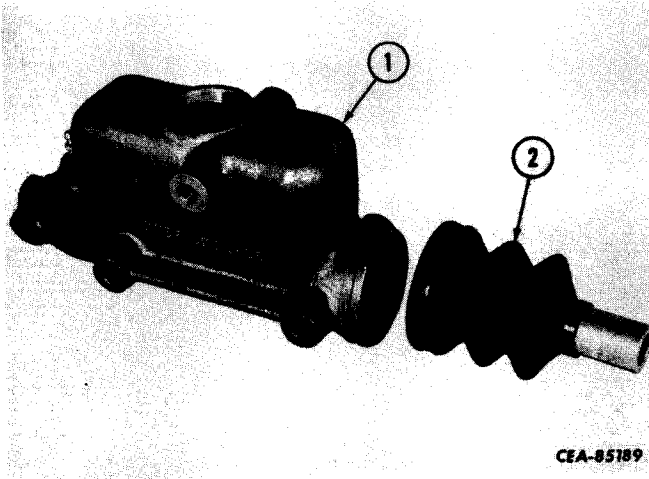

Figure 13-35
Separate piston rod boot (2, Fig. 13-35) from hydraulic cylinder (1).
Attach boot (2, Fig. 13-35) to end of cylinder body (1).